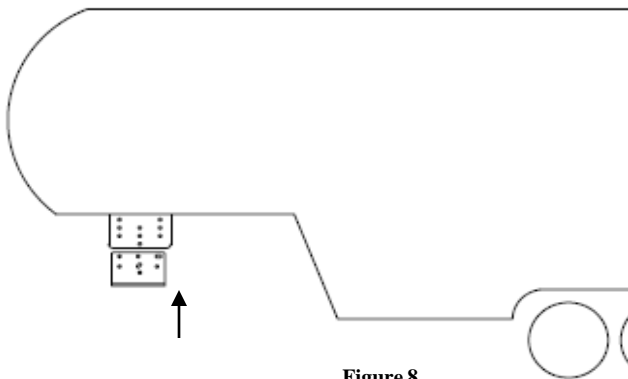

Figure 8
4. Install the turret inside the mounting wings (Figure 8). Cequent Performance Products recommends replacing the mounting bolts, nuts, and lock washers with the same size & grade as the bolts removed from the original pin box. Torque all bolts to the proper value listed in table 1.